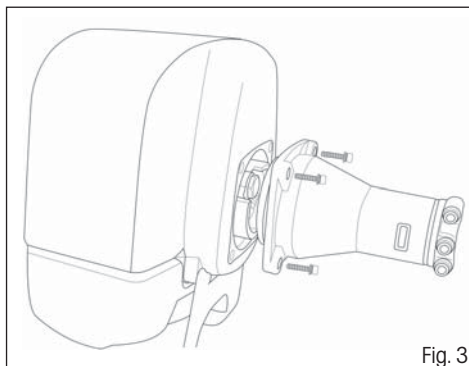

Fig. 3
- ✿ Using the four included screws, attach the engine of the brush cutter to the shaft (see fig. 3).